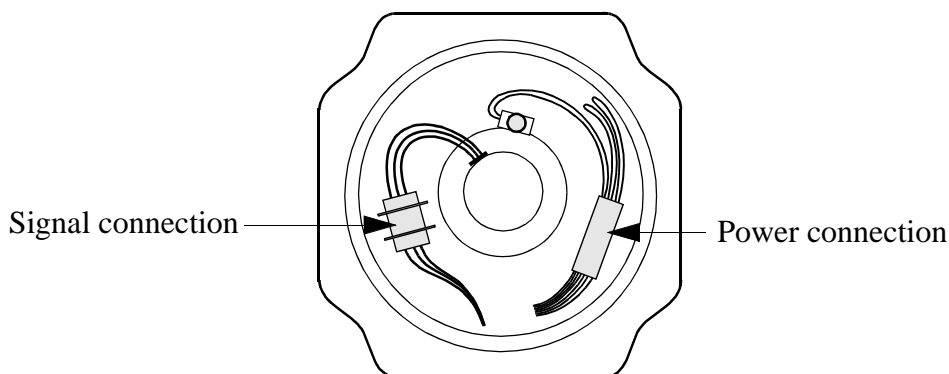

Figure 9 Cable routing in the motor unit.
- The cable routing is shown in Figure 9. Note that the signal connection and the power connection must not be entwined.